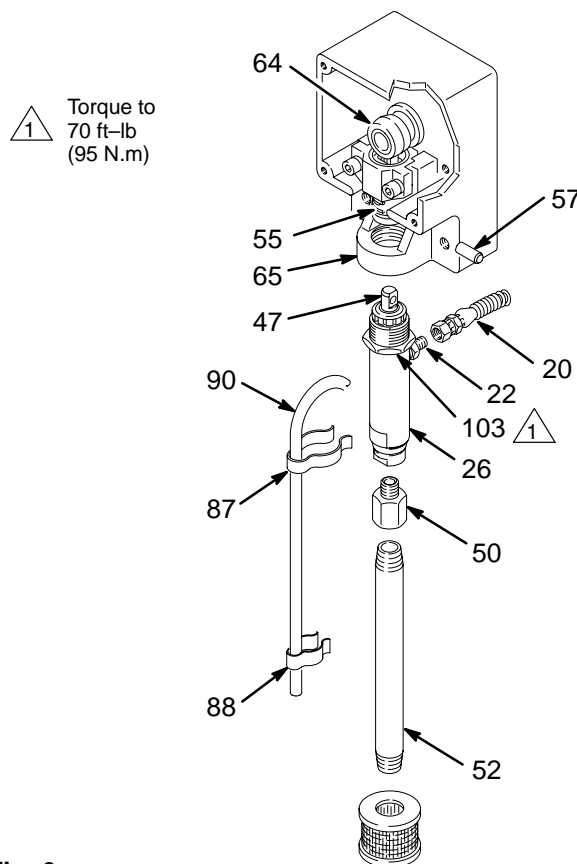

Fig. 6
2. Remove the hose clamps (87, 88) and move the drain tube (90) away from the pump. Unscrew and remove the suction tube (52). Remove the adapter (50). See Fig. 6.
3. Disconnect the hose (20) from the nipple (22). See Fig. 6.
4. Push the retaining spring (55) up. Push out the pin (57).
5. Loosen the cylinder locknut (103) and unscrew the pump (26) from the drive assembly (65).
1. Disconnect the hose (20) from the nipple (22). See Fig. 6, page 16.